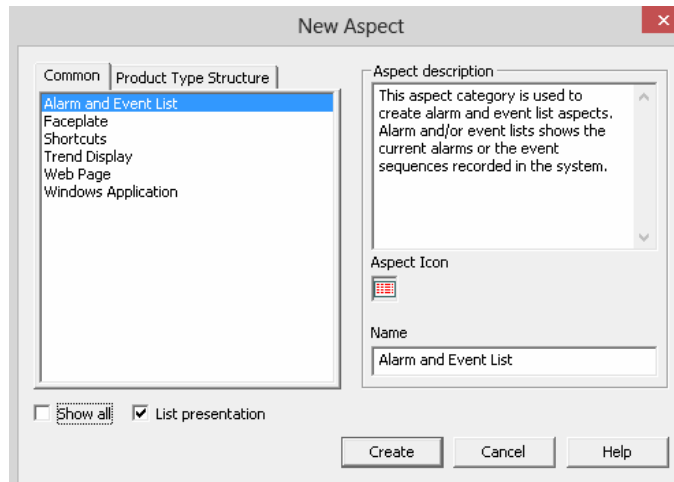

Figure 203. New Aspect Dialog
**New Aspect...** Brings up the New Aspect dialog. See Figure 203 and Adding an Aspect on page 268.